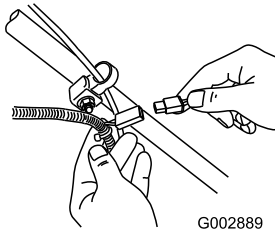

Figure 32
1. Connect the charger to the mower wire harness located below the ignition key (Figure 32).